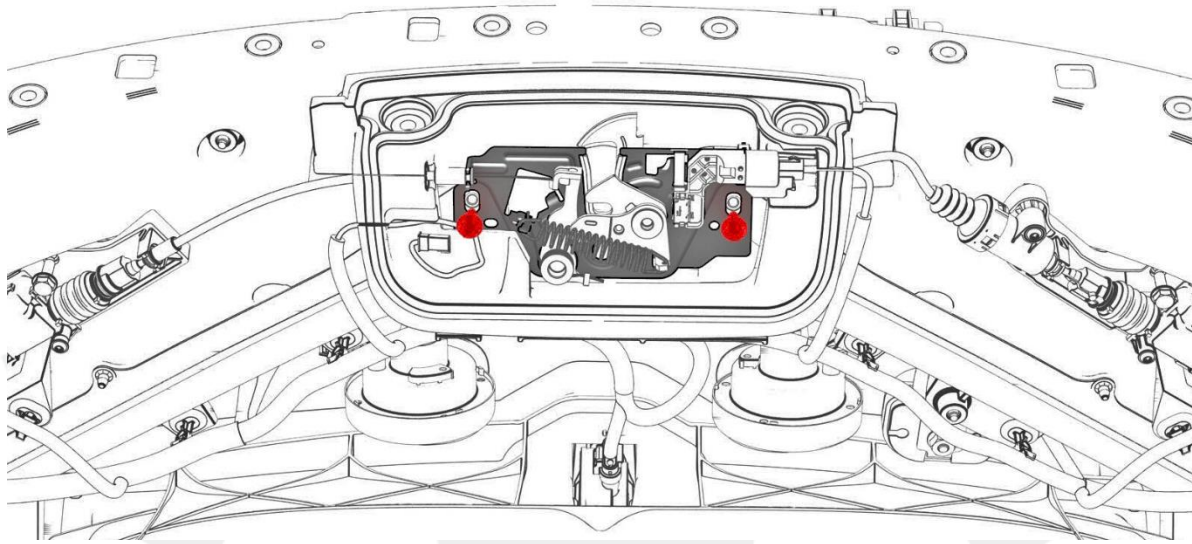

Figure 14
14. Remove the bolts (x2) that attach the hood latch to the front end carrier (Figure 14).